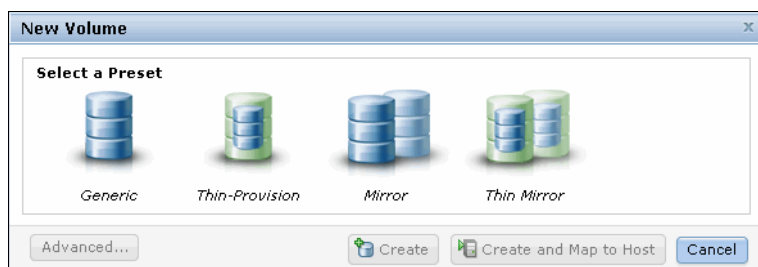
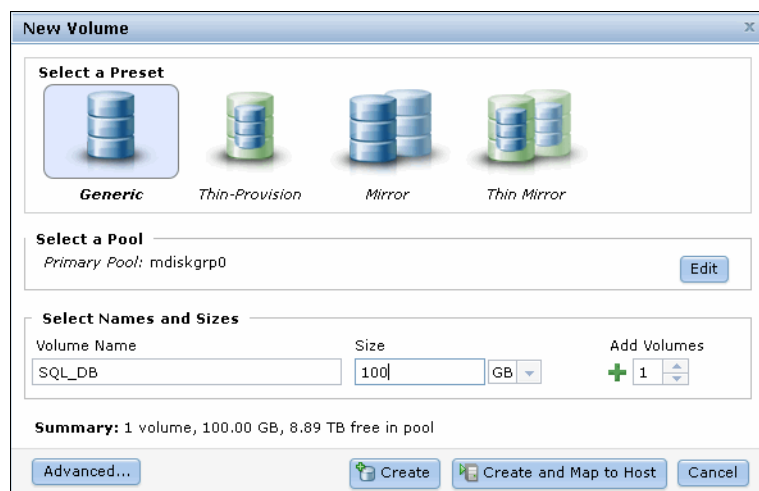

Figure 5-4 New Volume window
Figure 5-5 Create a generic volume
The New Volume window opens, as shown in Figure 5-4.
1. We choose a generic volume (as shown in Figure 5-4 on page 174) and then we select the pool in which the volume should be created. Select the pool by clicking it. In our example, we click pool that is called **mdiskgrp0**. The result is shown in Figure 5-5.
If you do not want to map the volumes now, click **Create** (as shown in Figure 5-5) to complete the task. Volumes also can be mapped later, as described in 5.2.2, “Manually mapping a volume to the host” on page 184.